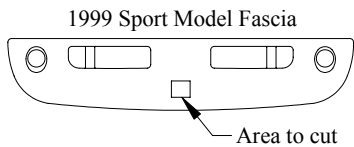

Figure 1
①	Qty. (2)	Hex Bolt, M12 x 1.75 x 45 CL10.9	④	Qty. (2)	Nut, M12 x 1.75
②	Qty. (4)	Conical Washer, 1/2"	⑤	Qty. (4)	Hex Bolt, M10 x 1.5 x 35 CL10.9
③	Qty. (2)	Spacer, 2" x 1-1/2" x 1/4"	⑥	Qty. (4)	Conical Washer, 3/8"
* **NOTE:** 1999 "Sport Model" vehicles require extensive fascia cut. See Figure 1.